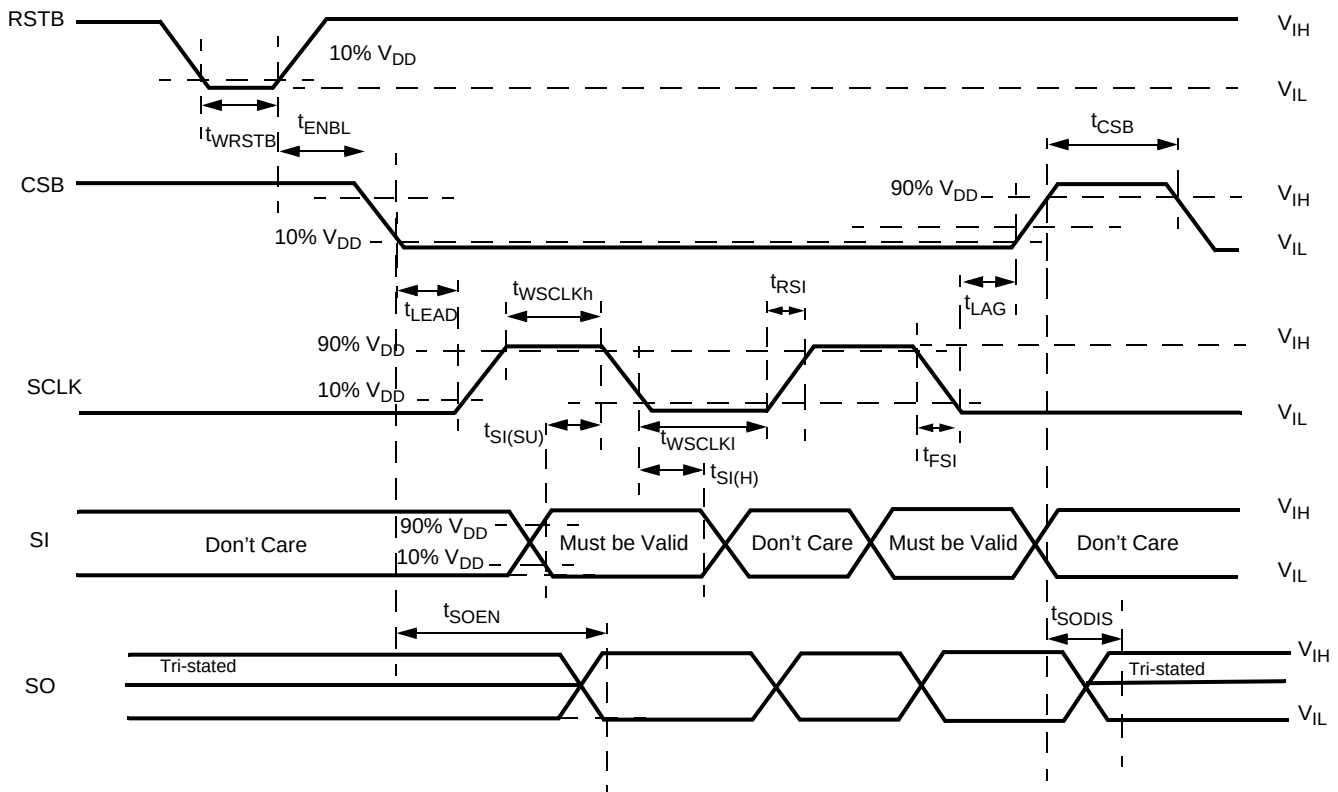
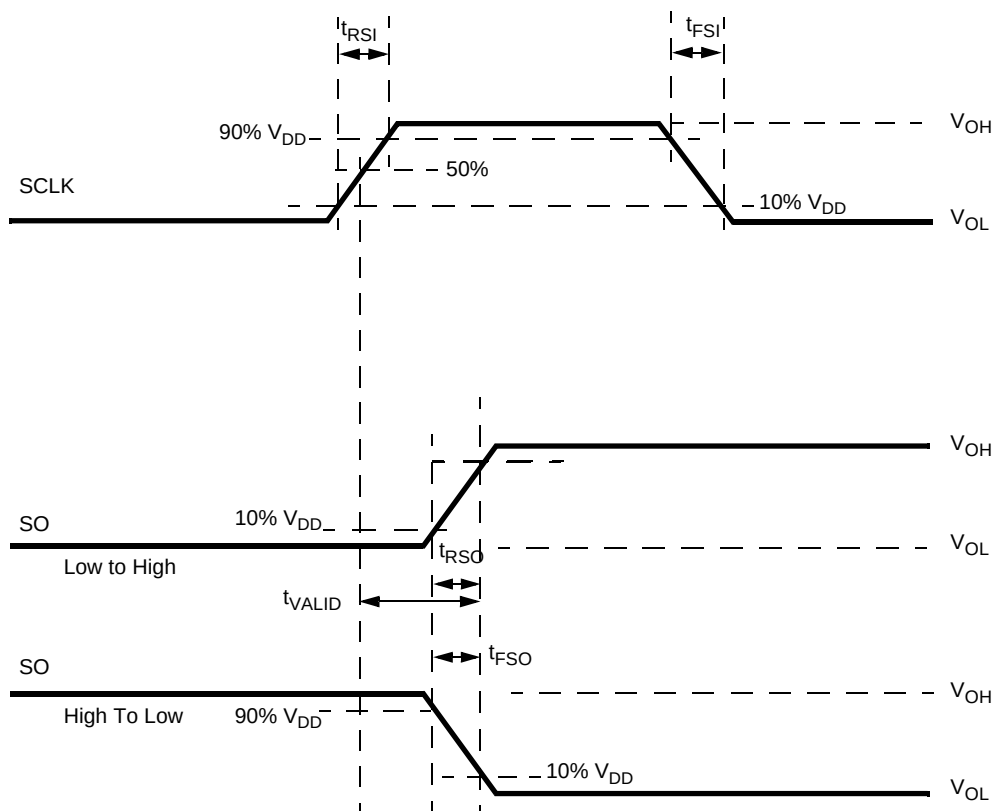

Figure 7. Timing Requirements During SPI Communication
Figure 8. Timing Diagram for Serial Output (SO) Data Communication
31. Time required to switch off the channel after detection of over-temperature (OT), over-current (OC), SC or UV error (time measured between start of the negative edge on the FSB pin and the falling edge on the output voltage until $V(\text{HS}[0:1]) = 50\%$ of V_{PWR}).
32. Settling time ($= t_{CSNSVAL_xx}$), SYNC output signal delay ($= t_{SYNCVAL_xx}$) and Read-out delay ($= t_{SYNREAD_xx}$) are defined for a stepped load current ($100\text{ mA} < I(\text{LOAD}) < I_{OCLX_A}$ FOR $\text{CSNS_RATIO_S} = 1$, AND $300\text{ mA} < I(\text{LOAD}) < I_{OCLX_A_0}$ FOR $\text{CSNS_RATIO_S} = 0$). (see Figure 8 and Output Current Monitoring \(CSNS\))
The CS pin allows independent current monitoring of channel 0 or channel 1 up to the steady-state over-current threshold. It can also be used to sense the device temperature. The different functions are selected by setting bits CSNS1_en and CSNS0_en to the appropriate value (Table 21). When the CSNS pin is sensed during switch-off in the (optional) track & hold mode (see Figure 8), it will output the scaled value of the load current as it was just before turn-Off. When several devices share the same pull-down resistor, the CSNS pins of devices the current of which is not monitored must be tri-stated. This is accomplished by setting CSNS0_en = 0 and CSNS1_en = 0 in the GCR register (Table 9). Settling time ($t_{CSNSVAL_XX}$) is defined as the time between the instant at the middle of the output voltage's rising edge ($HS[0:1] = 50\%$ of V_{PWR}), and the instant at which the voltage on the CSNS-pin has settled to $\pm 5.0\%$ of its final value. Anytime an over-current window is active, the CSNS pin is disabled (see Over-current Detection on Resistive and Inductive Loads). The current and temperature sensing functions are unavailable in Fail-safe mode and in Normal mode when operating without the V_{DD} supply voltage. In order to generate a voltage output, a pull-down resistor is required ($R(CSNS)=1.0\text{ k}\Omega$ typ. and $470 < R(CSNS) < 10\text{ k}\Omega$). When the current sense resistor connected to the CSNS pin is disconnected, the CSNS voltage is clamped to $V_{CL(CSNS)}$. The CSNS pin can source currents up to about 5.6 mA.
Data communication over the SPI port is enabled when the CSB pin is in the logic [0] state. Data from the Input Shift registers are locked in the addressed SI registers on the rising edge of CSB. The device transfers the contents of one of the eight internal registers to the SO register on the falling edge of CSB. The SO output driver is enabled when CSB is logic [0]. CSB should transition from a logic [1] to a logic [0] state only when SCLK is at logic [0] (Figure 7 and Figure 8). CSB is internally pulled up to V_{DD} through I_{UP} .
Serial input (SI) data bits are shifted in at this pin. SI data is read on the falling edge of SCLK. 16-bit data packages are required on the SI pin (see Figure 7), starting with bit D15 (MSB) and ending with D0 (LSB). All the internal device registers are addressed and controlled by a 4-bit address (D9-D12) described in Table 13. Register addresses and function attribution are described in Table 14. The SI pin is internally connected to a pull-down current source, I_{DWN} .